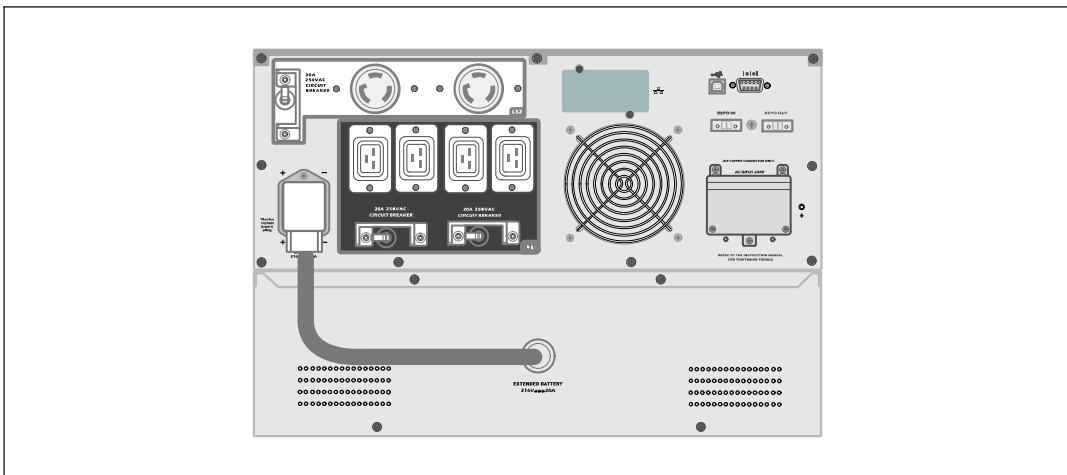

Figure 15. EBM Installation
- 1 Plug the EBM cable into the UPS battery connector (see Figure 15).